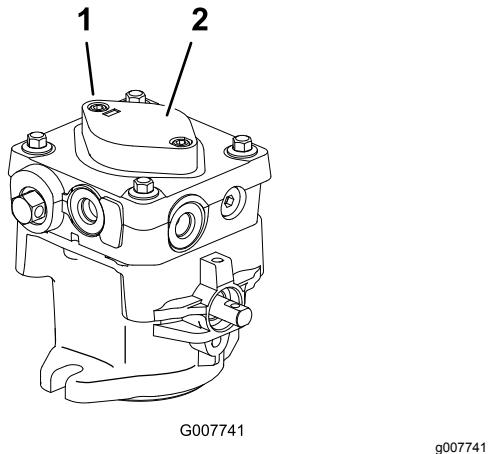

Figure 54
- B. Loosen the 2 hex-socket head capscrews (Figure 54) 1-1/2 turns only.